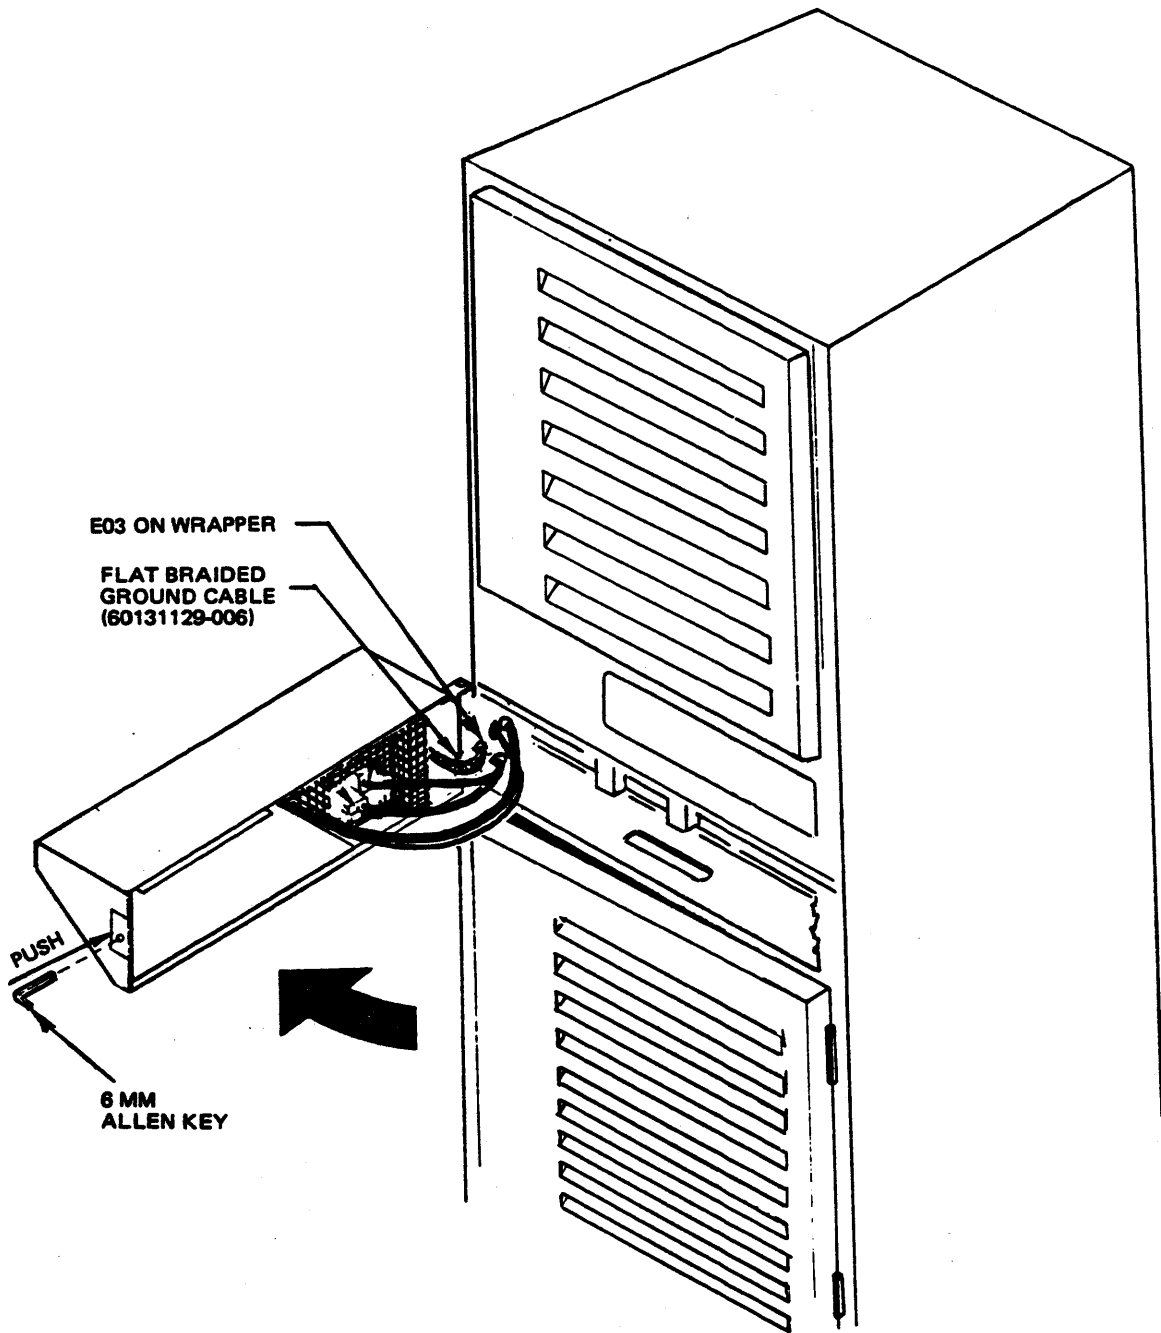

Figure 3-6.2 Control Panel Ground
3. On the control panel, ensure that Q1AE02 is connected via a jumper cable to ground stud E02GD on the nearest five-card wrapper or to E03GD on the nearest ten-card wrapper (see Figure 3-6.2).